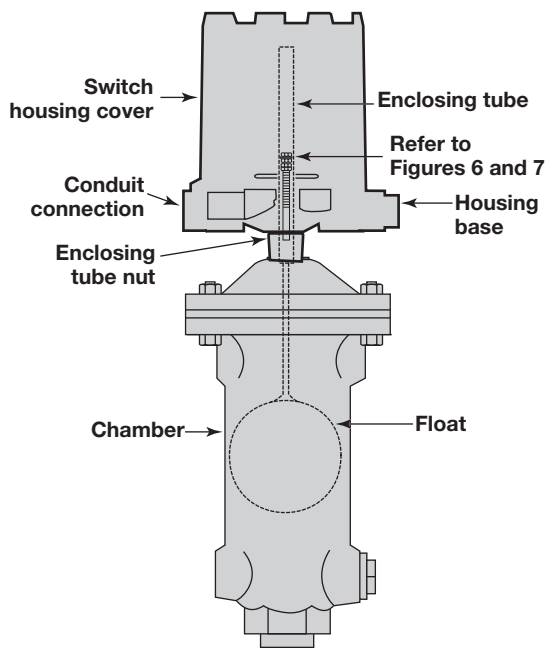

Figure 9
4. Disconnect power supply wires from switch mechanism. Pull wires out of conduit connection opening in housing base. Refer to Figure 9 on page 10.
8. Loosen enclosing tube nut with a $\frac{1}{16}$ " wrench. Unscrew enclosing tube counterclockwise (switch and housing base will rotate also), until it is free. Refer to Figure 9 on page 10.